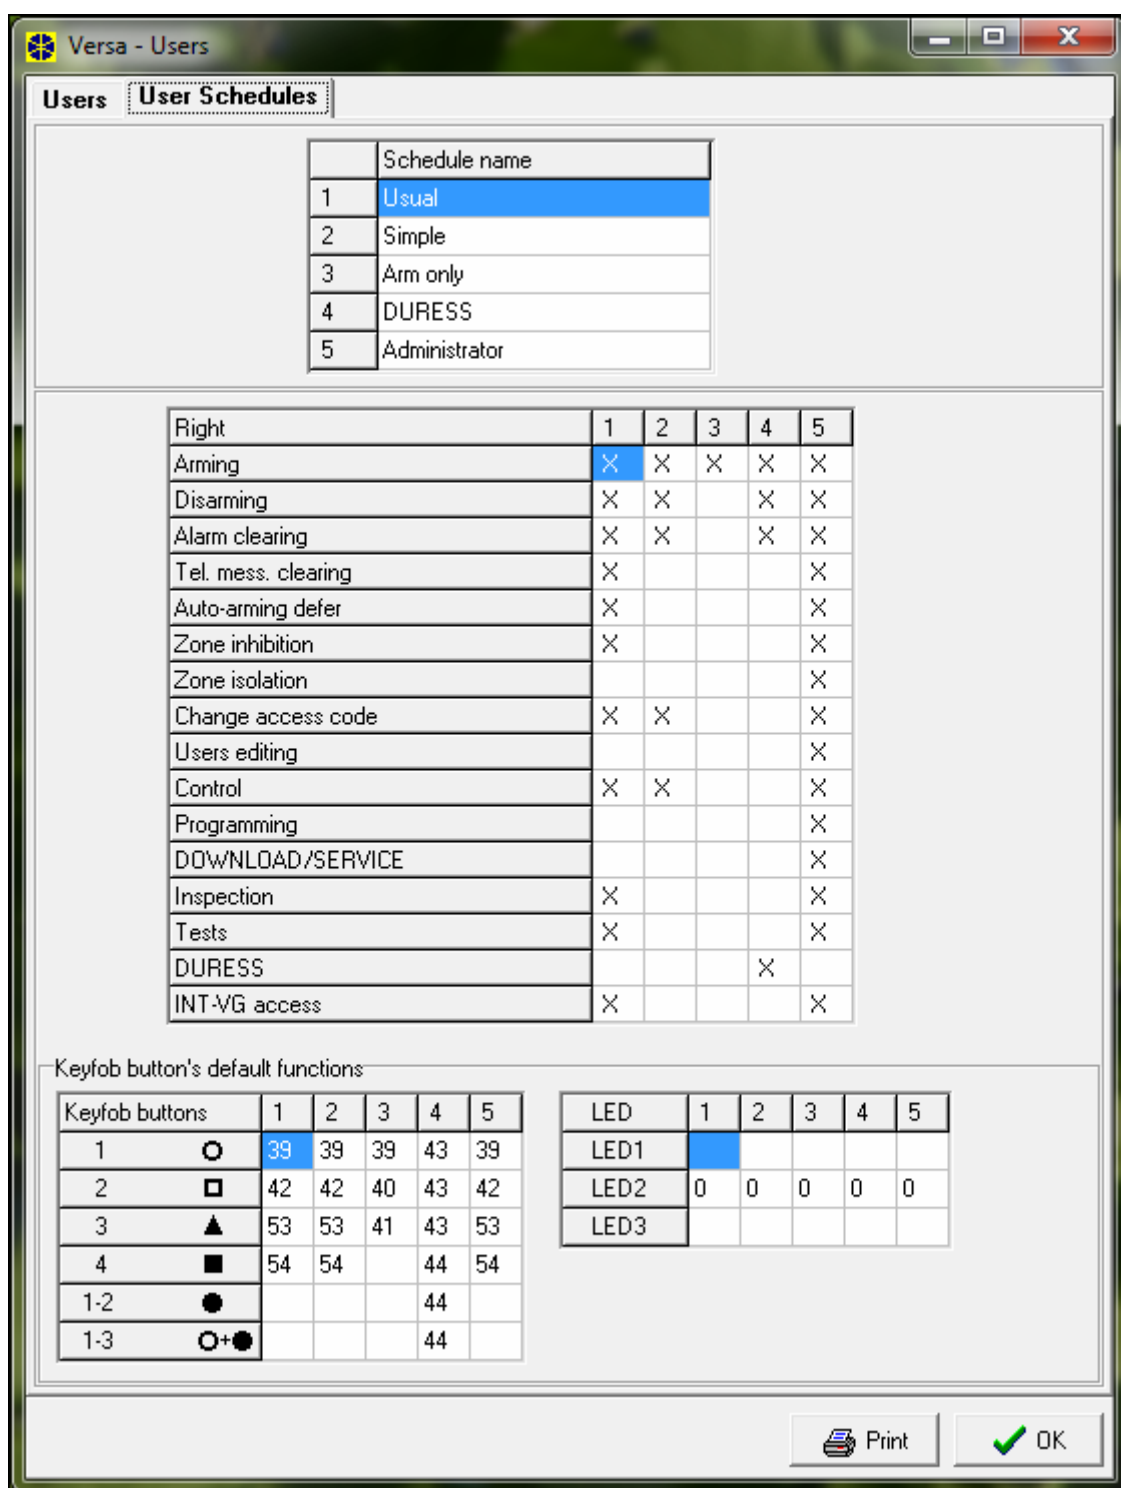

Fig. 26. DLOADX program: "User Schedules" tab in "VERSA – Users" window.
- DLOADX program: “VERSA – Users” window → “Users Schedules” tab (Fig. 26).